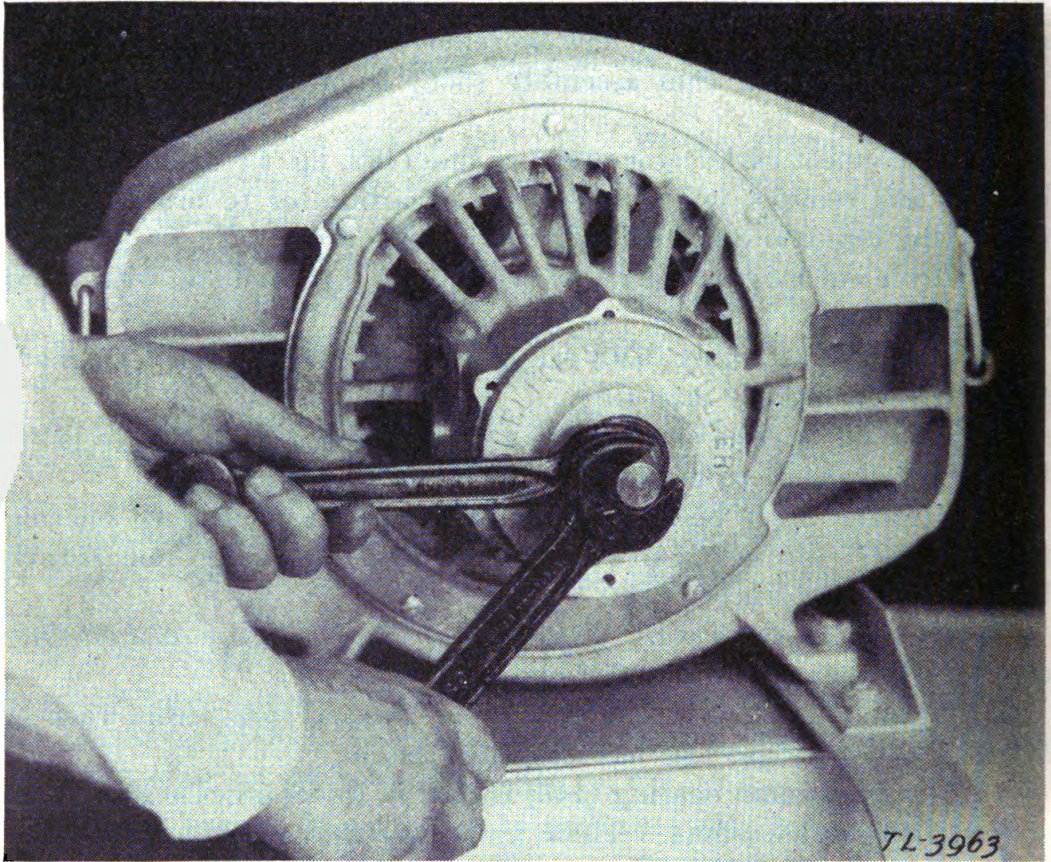

FIGURE 15.—Removing crankshaft.
(b) The front main bearing (545) is held in the crankcase by special screws (546) and washers. These must be removed before the shaft puller (580) is applied. These screws can be exposed by turning the crankshaft so that the cut-out section of the crank throw is opposite each screw in turn. After removal of the screws, place the shaft puller on the end of the crankcase so that it fits over crank throw. Insert jack screw (575) and screw it into center of shaft. Then by turning down the nut (fig. 15) the crankshaft will be drawn free of the crankcase, leaving the flywheel still securely in place in the crankcase. The front main bearing will usually come out on the shaft. Should this bearing remain in the crankcase, it may be removed as follows: